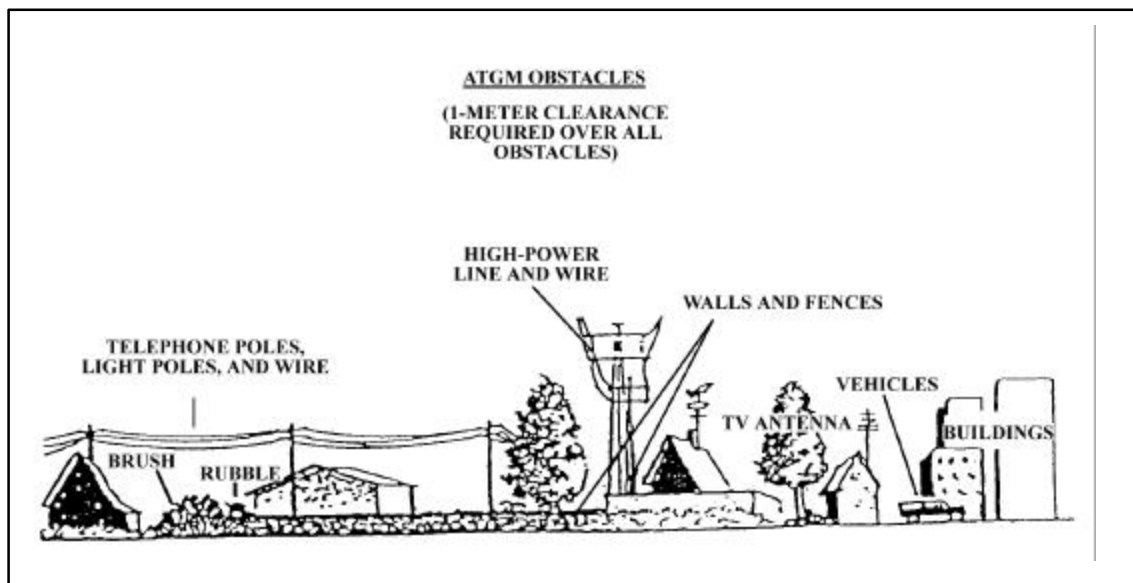

Figure B-7. Common Obstacles to ATGM Flights
(1) Obstacles. Rubble or other obstacles could interfere with the flight of missiles when fired from street level. At least 3.5 feet (1 meter) of vertical clearance over such obstacles must be maintained. Figure B-7 shows the most common obstacles to ATGM flight that are found in built-up areas. *Power lines are a special obstacle and present a unique threat to ATGM gunners. If the power in the lines has not been interrupted, the ATGM guidance wires could create a short circuit. This would allow extremely high voltage to pass to the gunner in the brief period before the guidance wires melted. This voltage could either damage the sight and guidance system or injure the gunner. Before any ATGM is fired over a power line, an attempt must be made to determine whether or not the power to that line has been interrupted.*